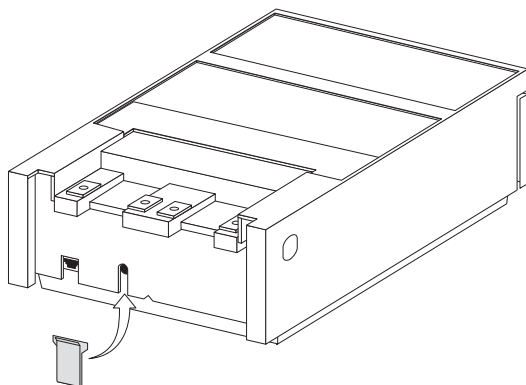

Figure 89. Removing the security clip (compact cash drawer)
4. Remove the security clip (see Figure 89).